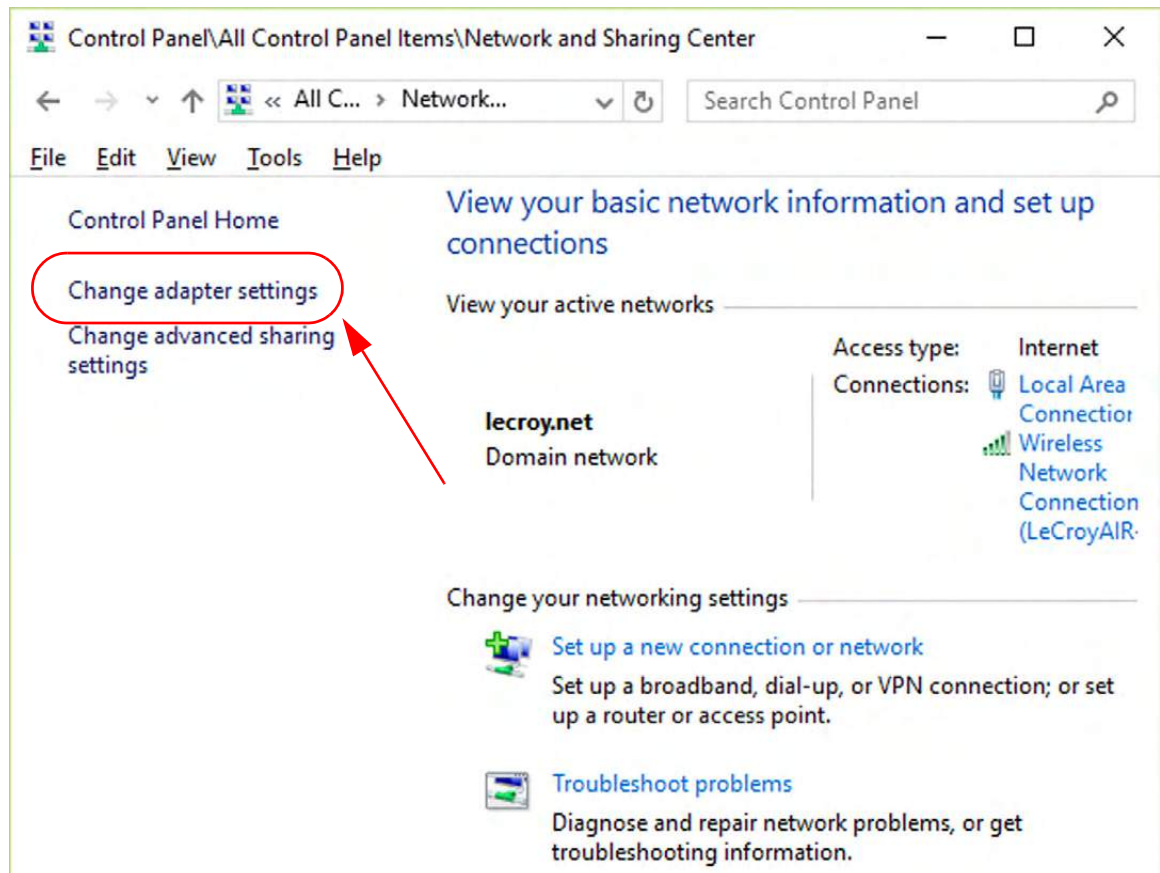

Figure 3.29: Control Panel: Change Adapter Settings
2. This will bring up the Network and Sharing Center Menu. See Figure 3.29